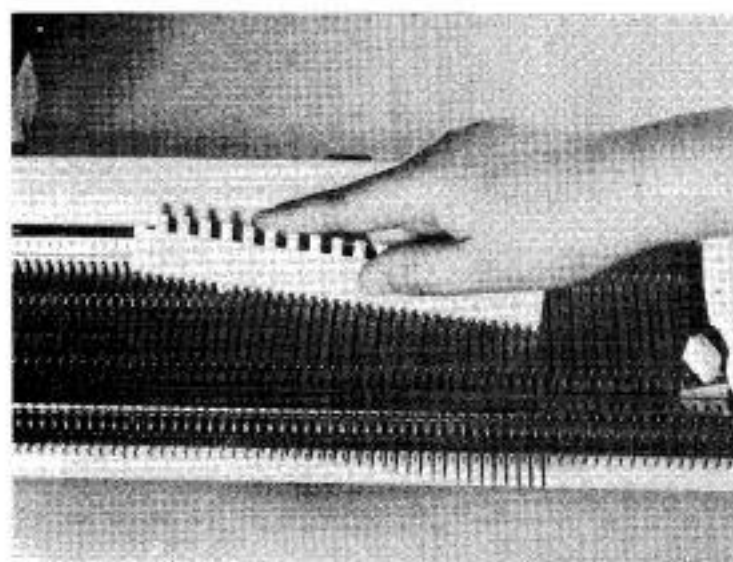

Fig. 34
- h) Bring forward, using the straight edge of the Needle Selector Plate—the number of needles required (see Fig. 34) — say 40 — into Holding Position (E). (Fig. 35)